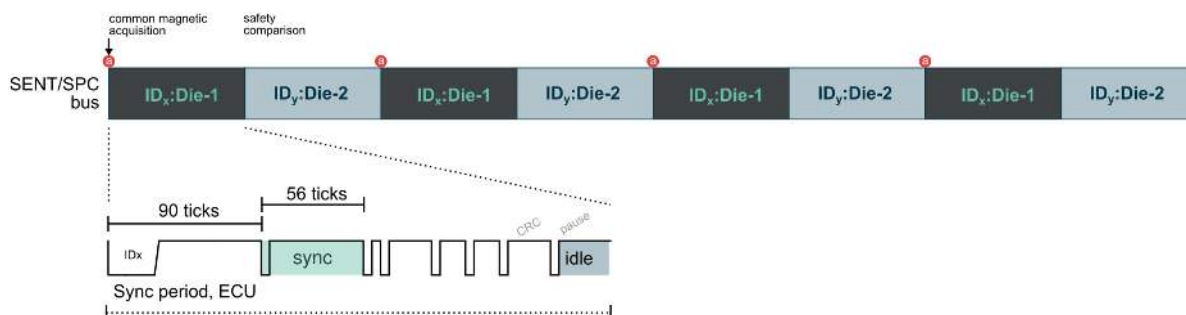

Figure 24 – Acquire Data during one SPC ID on all ICs on the same bus. Buffer and send when SPC ID matches.
2. All IC's on the bus acquire the data when a specific SPC ID is sent. Each IC buffers and transmits when called upon, see Figure 24.